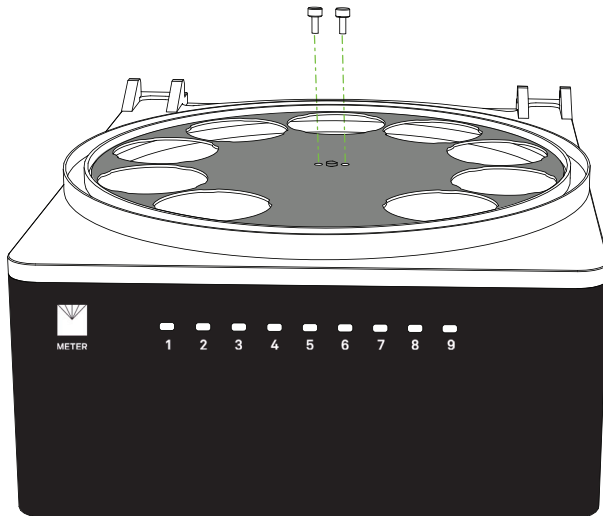
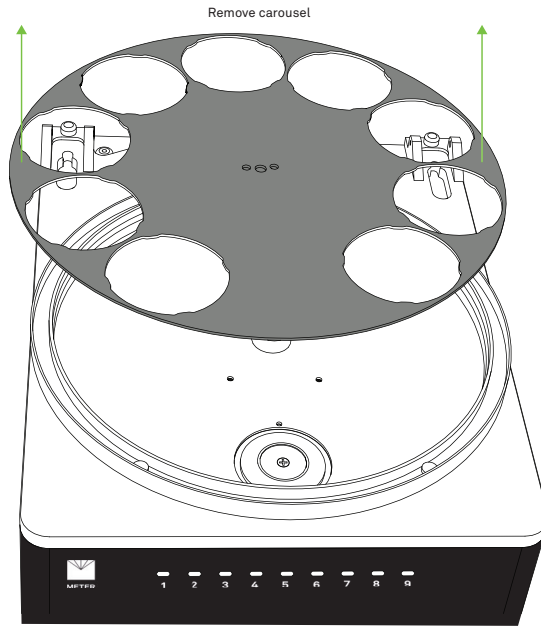

Figure 9 Remove Thumb Screws
Figure 10 Remove Carousel
4. Remove the carousel by removing the two thumb screws in the center of the carousel (Figure 9 and Figure 10).